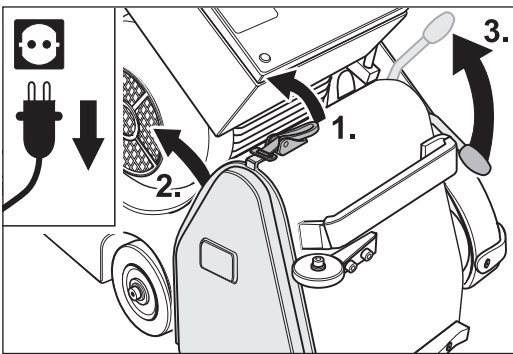

Fig. 78 Release the cover lock (1.), remove the side cover (2.) and lower the tensioning roller by pulling up the operating lever (3.).
- 2** Release the cover lock (Fig. 78, 1.) and remove the side cover on the right of the machine housing (Fig. 78, 2.).
- 3** Pull the operating lever of the drive unit upwards (Fig. 78, 3.). This will lower the tensioning roller.